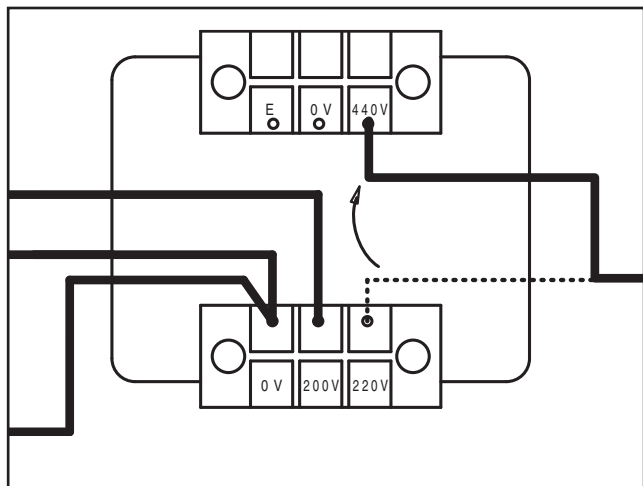

Figure 7. 440V connections, Model G0486/G0487.
3. On the transformer, remove the wire labeled "1" connected to the 220V terminal, and connect it to the 440V terminal as shown in **Figure 7**.